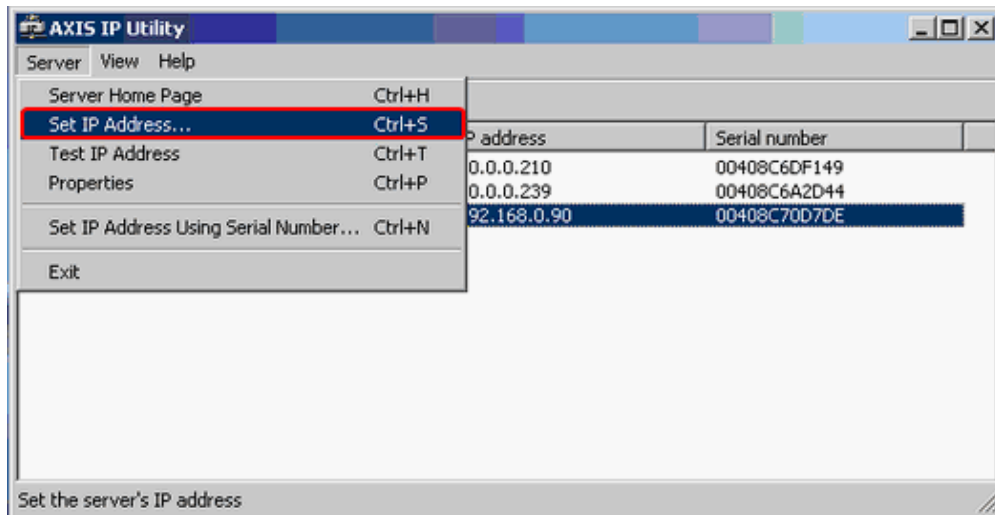

Figure 6.1-7 Set IP Address in the Server dropdown list in the main menu of the IPUtility.exe utility
- 2.4. Select **Set IP Address** in the **Server** dropdown list in the main menu of the **IPUtility.exe** utility (Figure 6.1-7).